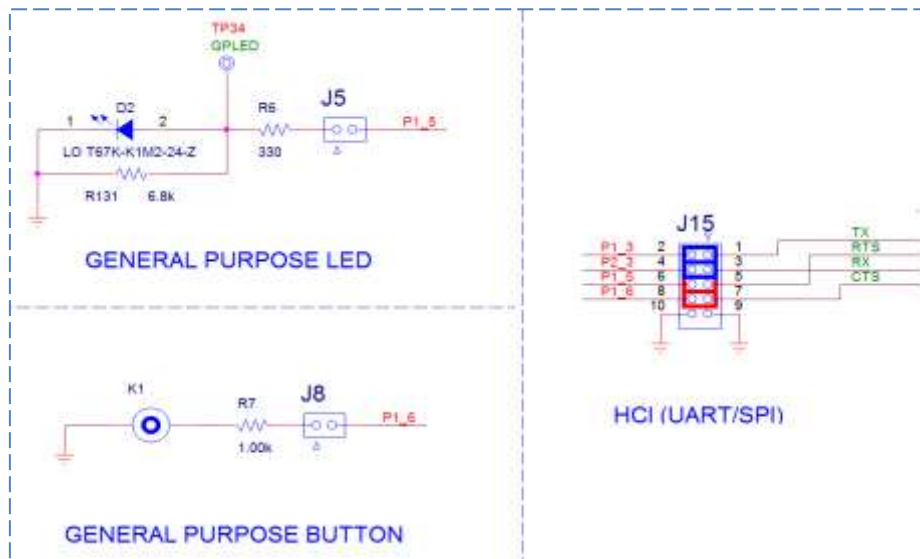

Figure 12: Full UART signals connectivity
- Jumpers in red must be placed in J15 between pin 5-6 and pins 7-8 for RTS and CTS respectively. (Figure 12)
- Jumpers should be removed from J5 and J8. By this way signal P1_5 and P1_6 are not connected anymore to LED D2 and key K1, respectively (Figure 12)